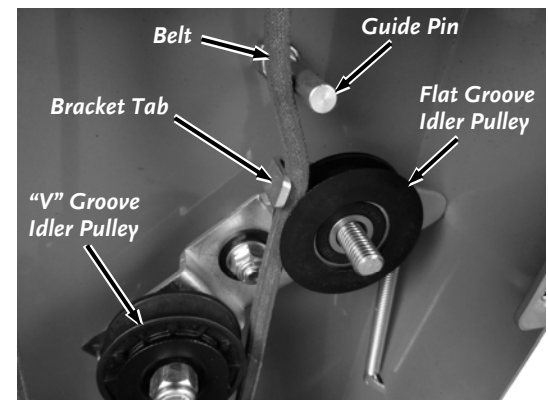

Figure 25
9. Install the small Spacer first, then the Flat Groove Idler Pulley with the Belt in the groove. Make sure you place the Belt correctly between the Idler Pulley, Bracket Tab, and Guide Pin (**Figure 25**).
The Belt must be installed on the inside of the guide Pin as shown in figure 25. If it is not installed on the inside the Trimmer Head will not function correctly.